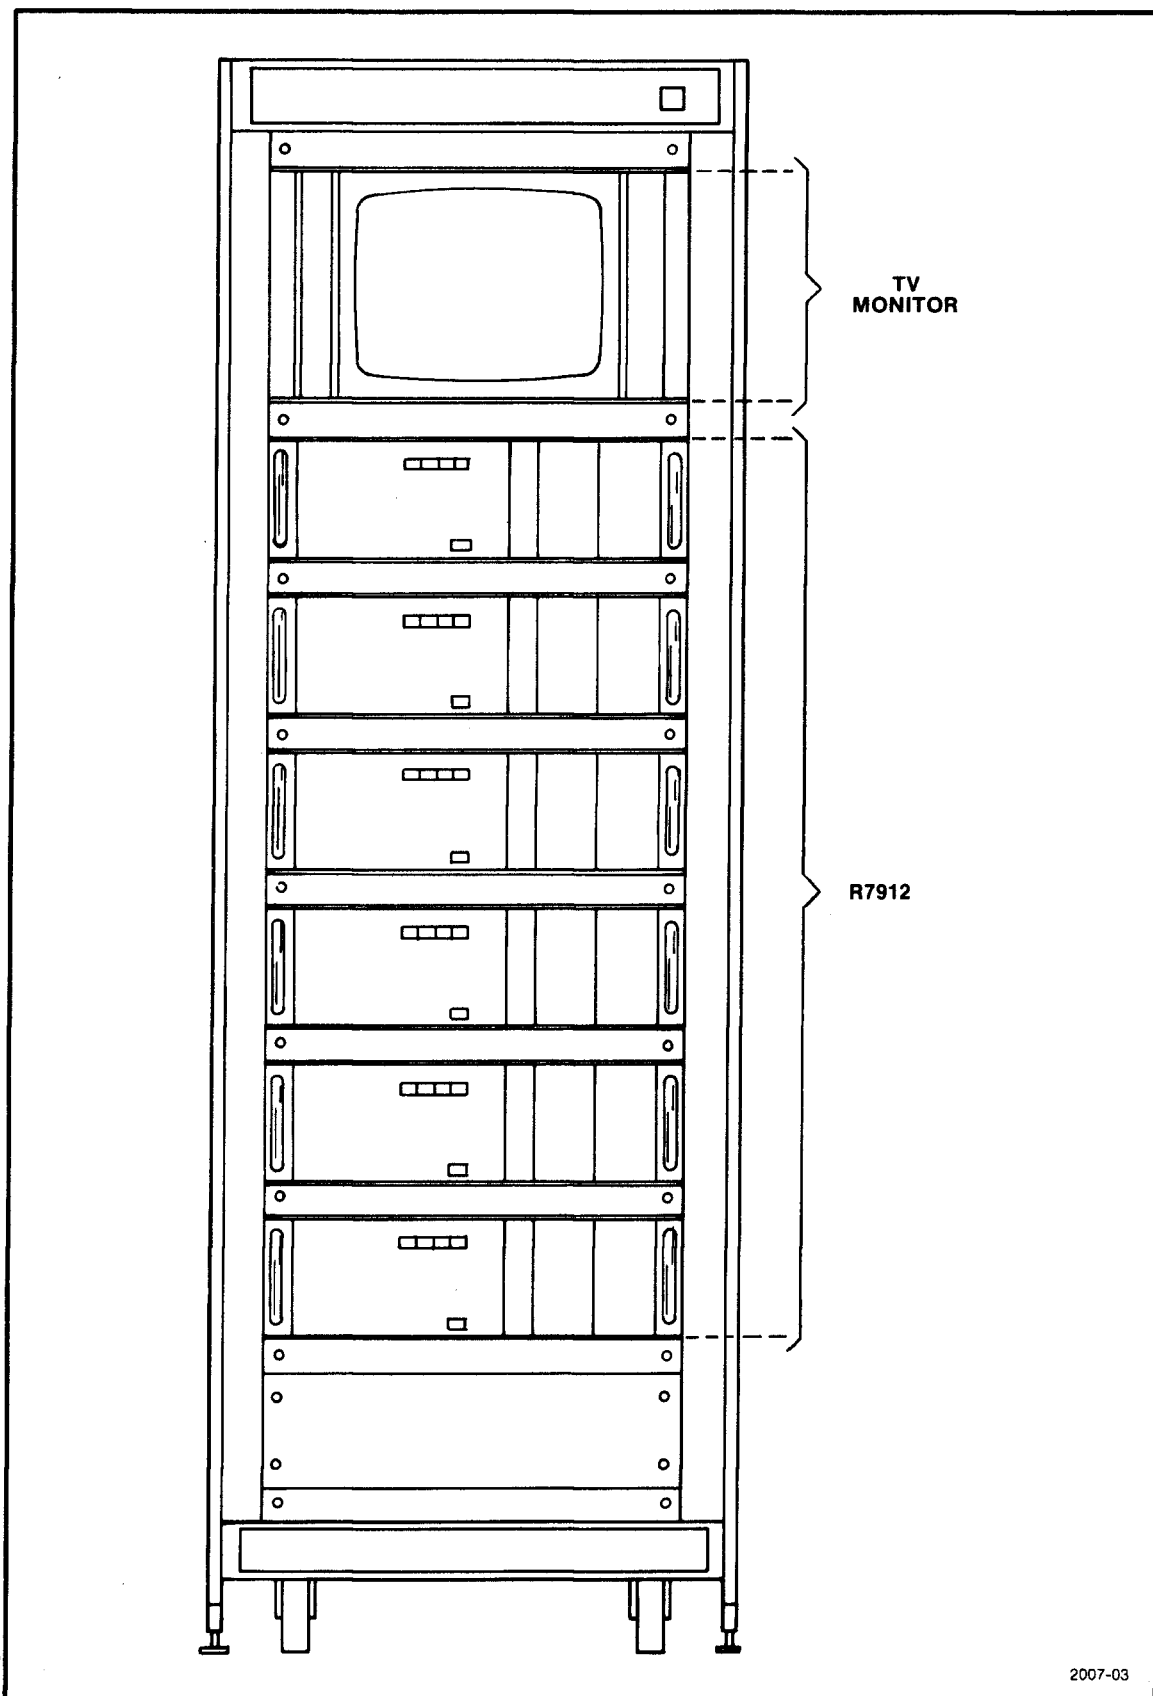

Fig. 2-2. WP2052 instruments mounted in the cabinet.
5. If you have more than one R7912, each instrument is shipped in a separate carton. Repeat steps 1 through 5 until all the R7912's are unpacked and mounted as shown in Fig. 2-2.